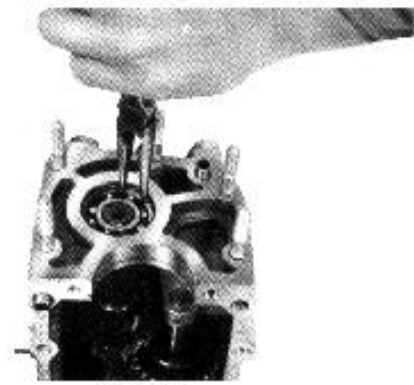

Fig. 8-4
1. Remove the countershaft bearing circlip in such a manner as shown in the Fig. 8-4 and drive out the shaft backward (toward the low gear). Remove the bearing from the countershaft, and move the shaft forward so that it can be pulled out from the transmission case.